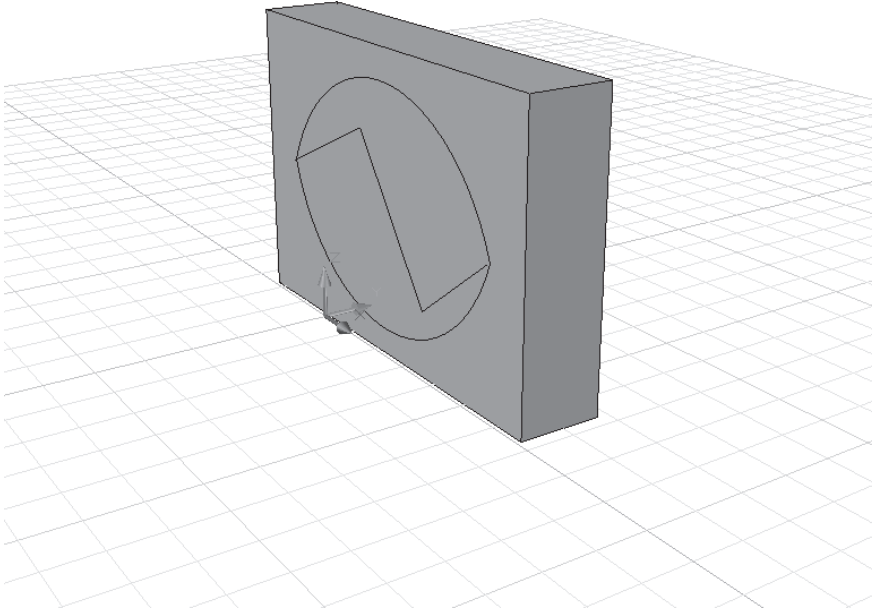

Figure 6.36
1. Use the Box tool from the flyout on the 3D Modeling panel to create a box similar to the one shown in Figure 6.36.
2. Choose Arc from the expanded Draw panel, and then using the Dynamic UCS feature described earlier in this chapter, draw an arc on the side of the box similar to the one in Figure 6.36. Remember that the cursor will change to indicate which surface you are aligned with, and a dashed line will also appear around the surface.
3. Draw another arc, as shown in Figure 6.36.
4. Choose Polyline from the Draw panel, and then draw the three-segment polyline shown in Figure 6.36. Press  $\downarrow$  when you have drawn the three line segments to exit the Polyline tool.